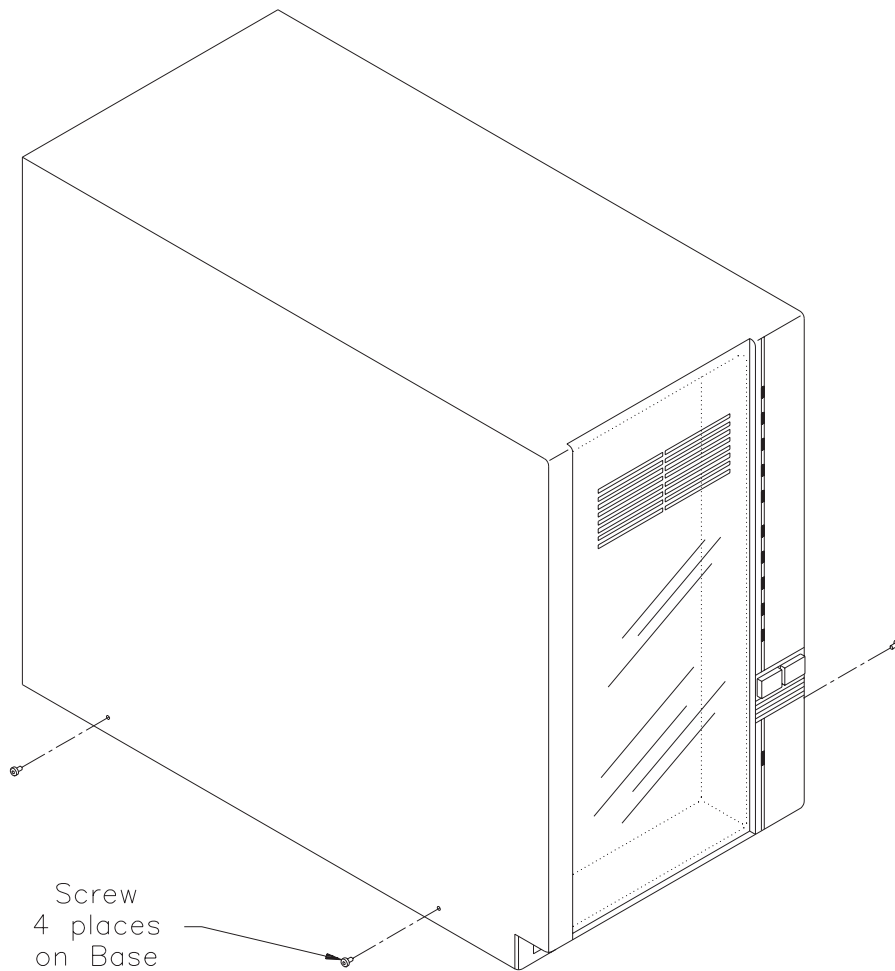

Figure 3-6 Cover screws at the base of the EXB-10i
2. Using a T-10 TORX driver bit, remove the four screws on the EXB-10i's base (two on each side), as shown in Figure 3-6.
3. Using a T-10 bit, replace the four screws on the sides. Figure 3-6 shows the locations of these screws. Tighten each screw to 12 inch-pounds (13.8 kg-cm) of torque.